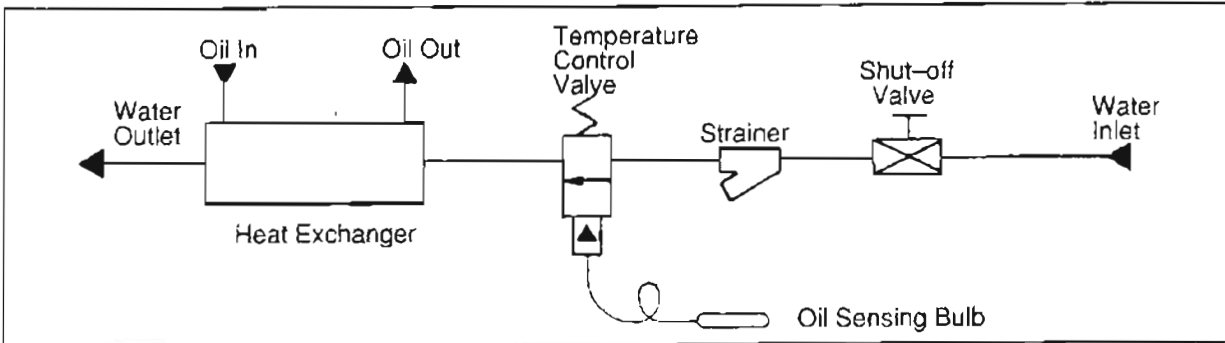

Figure 1
**Water** (If water cooled heat exchange has been provided) Connect the water supply to the inlet of the heat exchanger, with a shut-off valve and strainer (if not supplied by Parker). If a temperature Control Valve (Model WTC\*\*) has been provided, it also should be installed on the inlet side. The outlet of the heat exchanger should be connected directly to the facility drain system. On single pass heat exchangers the water connections should be installed as shown below. On multi-pass heat exchanger the water flow direction is not important. (See fig. 1)